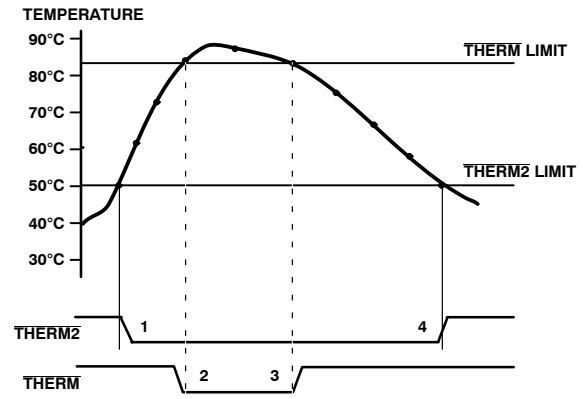

Figure 20. Operation of the $\overline{\text{THERM}}$ and $\overline{\text{THERM2}}$ Interrupts
programmed local and/or remote high temperature limits. It is reset in the same manner as $\overline{\text{THERM}}$, and it is not maskable. The programmed hysteresis value also applies to $\overline{\text{THERM2}}$. Figure 20 shows how $\overline{\text{THERM}}$ and $\overline{\text{THERM2}}$ might operate together to implement two methods of cooling the system. In this example, the $\overline{\text{THERM2}}$ limits are set lower than the $\overline{\text{THERM}}$ limits. The $\overline{\text{THERM2}}$ output can be used to turn on a fan. If the temperature continues to rise and exceeds the $\overline{\text{THERM}}$ limits, the $\overline{\text{THERM}}$ output can provide additional cooling by throttling the CPU.
- The $\overline{\text{THERM}}$ output deasserts (goes high) when the temperature falls to $\overline{\text{THERM}}$ limit minus hysteresis. In Figure 20, there is no hysteresis value shown.